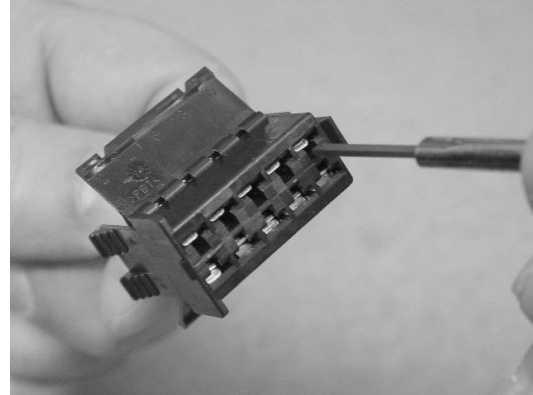

Figure 2
2. While holding the connector, grasp the wire at the rear of the housing and push forward toward the mating end to disengage the contact locking lance from the connector cavity shoulder. See Figure 2.